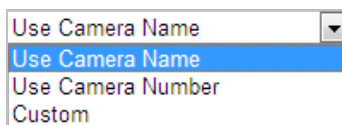

Figure 7-12 Child Directory
- ◆ **Child directory:** It is a sub-folder which can be created in the parent directory. The files will be saved in a sub-folder in FTP server. The name of folder can be defined as shown in following Figure 7-12.